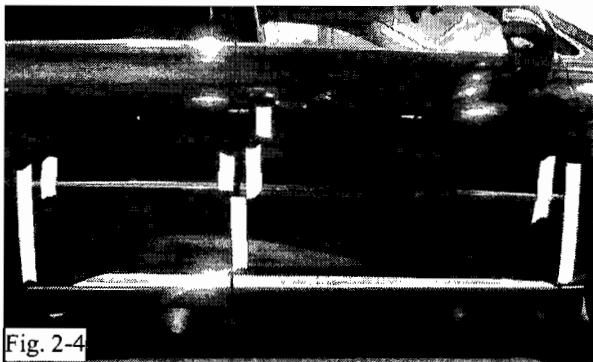

Fig. 2-4
- (d) Place a vertical piece of tape at the extreme ends of the moldings as shown in Fig. 2-4.